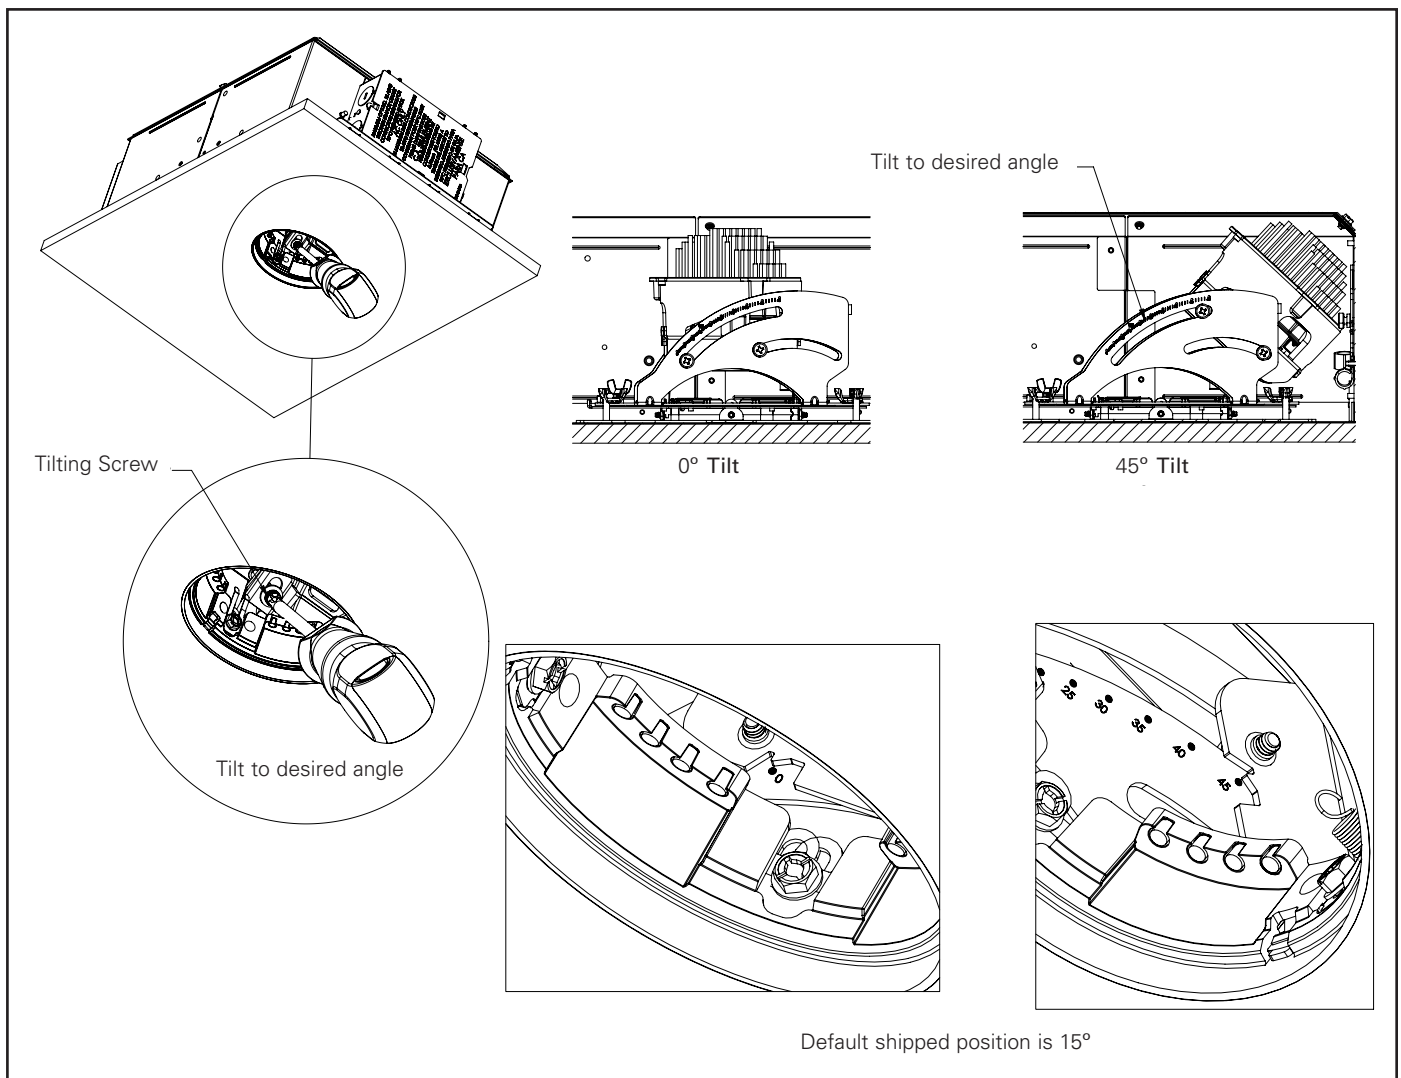

Figure 17.
1. Tilt the mechanism by turning the tilting screw in the clockwise direction (Figure 17). Reference the angle dial on the mechanism assembly for determining tilt angle.
2. Make sure that the mechanism 0-degrees downlight position (see figure 17).